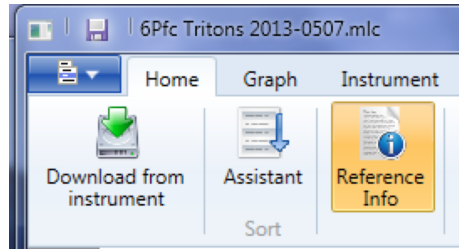

Figure 64
- **SOLUTION:** Unhide it by selecting the "**REFERENCE INFO**" button under the Data Window Home menu (Figure 64).